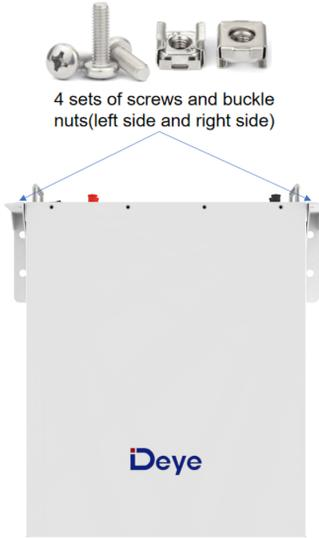

Figure 4-4
j) Carry the battery and hold it. Fix the battery to the support after fixing it to the wall. Ensure that battery mounting ears are aligned with the left and right holes on the support, as shown in Figure 4-4.